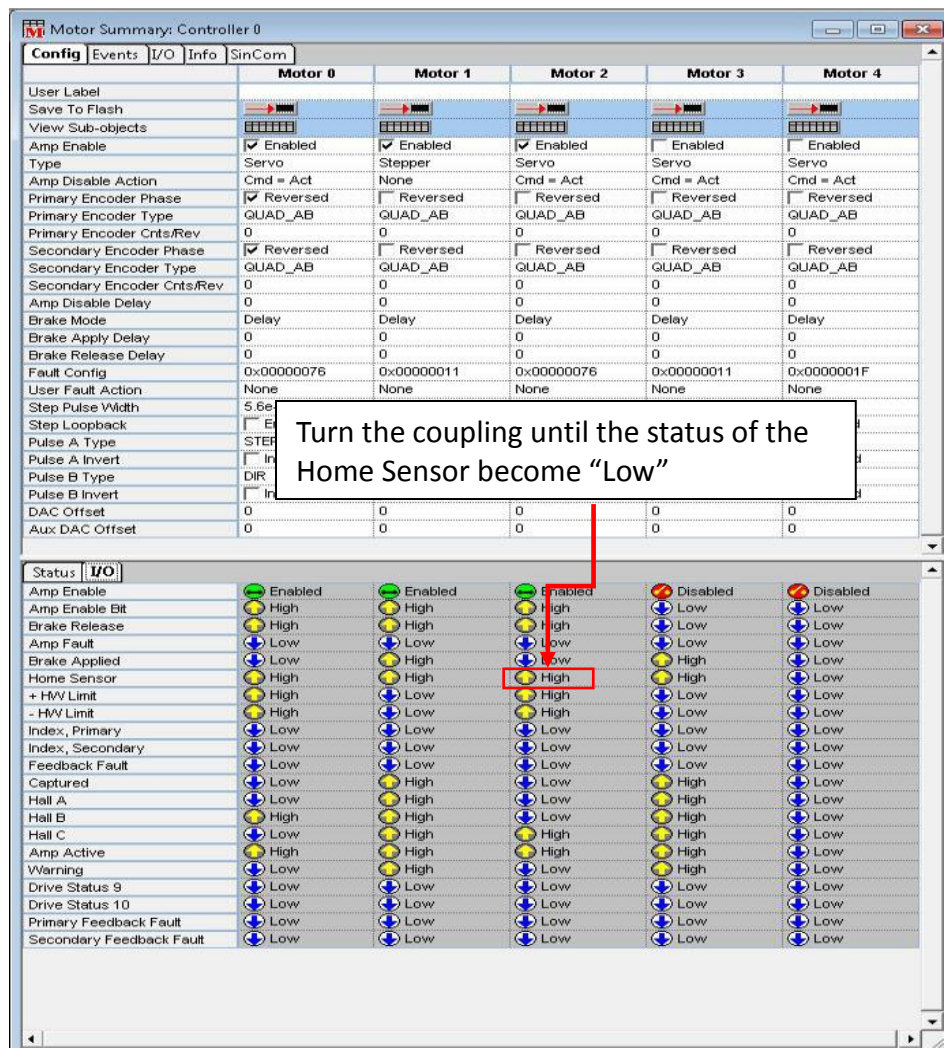

Figure 18 Motor Summary
23. Push the stage to the minimum hard stop (left outer barrier side) and the status of the X-axis limit sensor should be blocked as shown in Figure 18.